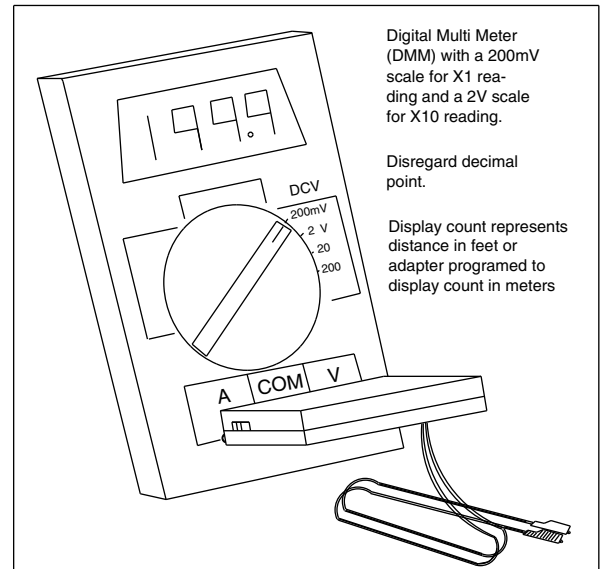

FIGURE 2 ADAPTER CONNECTED TO DIGITAL METER
- 1.02 The Meter Adapter was designed to convert a digital multimeter (with a 200 millivolt scale) to a Protectowire Alarm Point Locator Meter. (See Figure 2)